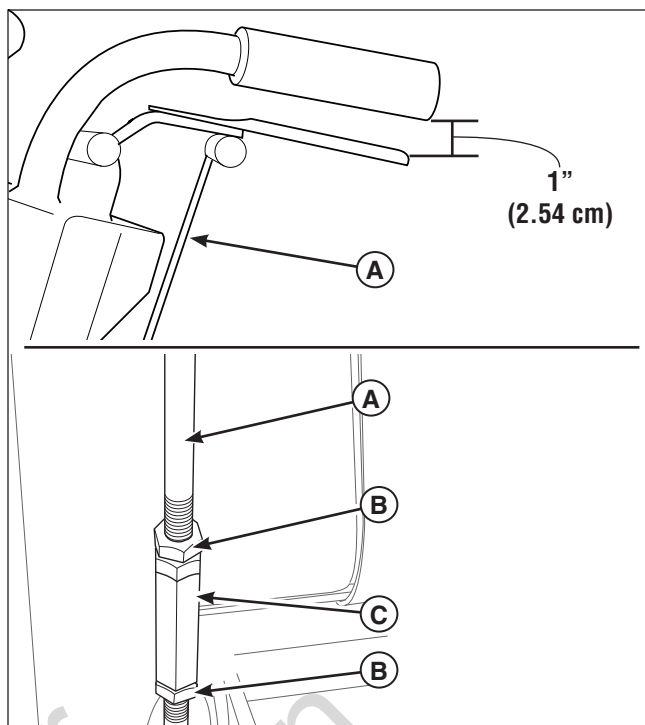

Figure 39. Handle Placement Adjustment
1. Loosen the jam nuts (**B**, **Figure 39**) that are located on the top and bottom of the reversing linkage rod (**A**).